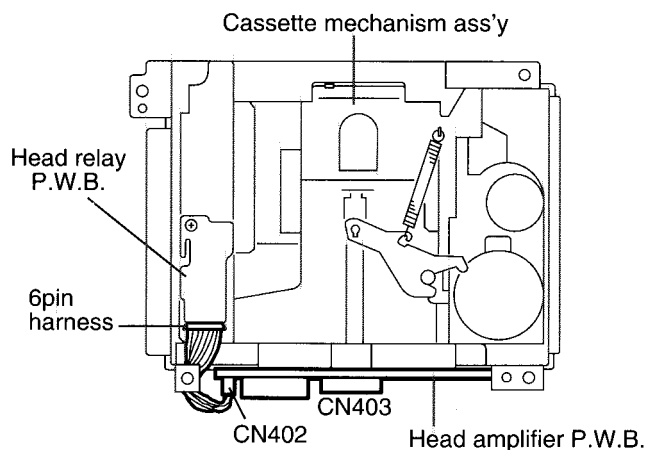

Fig.1
#### ■ Removing the head amplifier P.W.B. (See Fig.1 and 2)
#### ■ Removing the cassette mechanism assembly (See Fig.1 to 3)
1. Disconnect the 6pin harness from connector CN402 and the card wire from CN403 on the head amplifier P.W.B. (Refer to Fig.1 and 2).